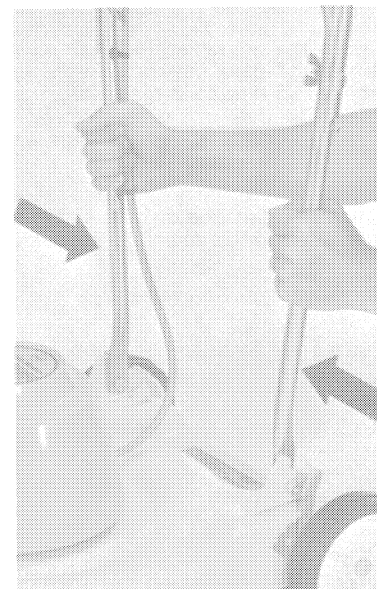

FIGURE 22
1. Squeeze the lower handle legs so that they clear the mounting brackets on the mower deck (Figure 22).